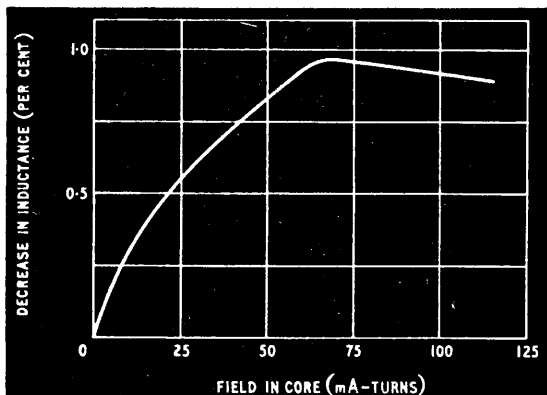
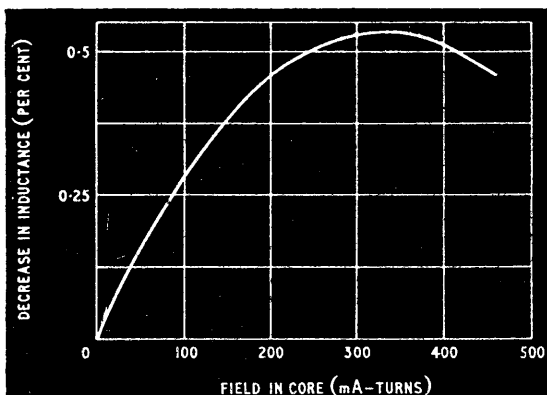

Fig. 1. Change of inductance when the control current is passed through the r.f. coil.
Fig. 2. Change of inductance when the control current is passed through a separate interleaved coil.
(1) A coil of 46 turns of 28 s.w.g. wire was wound on the 0.25-in diameter ferrite rod and its inductance measured. The change of inductance at 1 Mc/s which was observed when direct current was passed through the coil is shown in Fig. 1. This direct current must be obtained from a high-impedance source if the Q of the coil is not to be appreciably affected. In this case it was found to be convenient to connect the r.f. coil in the anode circuit of a pentode valve.
It is seen from Fig. 1 that a linear change of the order of 1% may be obtained. A series of coils were now wound with 40, 20, 10, 5, 2, and 1 turn respectively of 28 s.w.g. wire, and tests carried out over a range of frequencies from 1 to 50 Mc/s. It was found that up to 14 Mc/s the percentage inductance changes were similar to those obtained at 1 Mc/s, but above 14 Mc/s the amount of change began to decrease, reaching zero at 45 Mc/s. As might be expected, the current required increased as the number of turns was reduced, but the ampere-turns required remained fairly constant up to 14 Mc/s.
(2) The control flux in the ferrite core may also be produced by passing a current through a separate winding on the core. This is clearly a simplification, since the control current need not be derived from such a high impedance source as with a combined r.f. and control winding. Initially, a control coil of 50 turns was wound on top of the r.f. coil of 46 turns of 28 s.w.g. wire already wound on the ferrite rod. This, however, decreased the Q of the r.f. coil so much that no inductance measurements were possible. With a control coil of 300 turns split into two sections, and wound on either side of the r.f. winding, the inductance of the coil was measured, but no change could be detected when current was passed through the control coil. The only arrangement which did give an appreciable change of inductance was that in which the r.f. and control coils were interleaved bifilarly. The results, which are shown in Fig. 2, are similar to those for (1), shown in Fig. 1, but the maximum inductance change was only 0.6% as compared with 1%, and nearly 10 times as many "control ampere-turns" were required for a given inductance change.